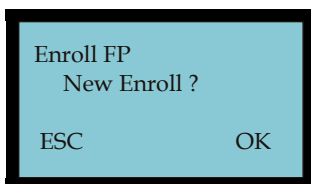

Figure 2-12 New Enroll FP Screen
4. Press **OK** and Enroll FP New Enroll? will appear (see **Figure 2-12**).